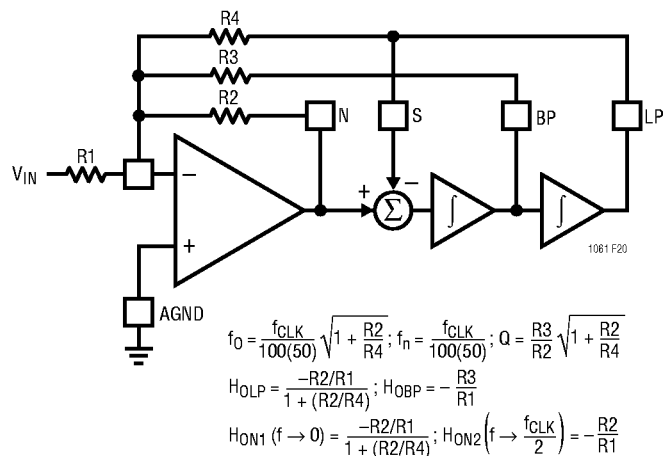

Figure 20. Mode 2: 2nd Order Filter Providing Notch, Bandpass, Lowpass.
**Mode 2** – This is a combination of Mode 1 and Mode 3, Figure 20. With Mode 2, the clock-to-center frequency ratio,  $f_{CLK}/f_0$ , is always less than 50:1 or 100:1. When compared to Mode 3 and for applications requiring 2nd order section with  $f_{CLK}/f_0$  slightly less than 100 or 50:1, Mode 2 provides less sensitivity to resistor tolerances. As in Mode 1, Mode 2 has a notch output which directly depends on the clock frequency and therefore the notch frequency is always less than the center frequency,  $f_0$ , of the 2nd order section.